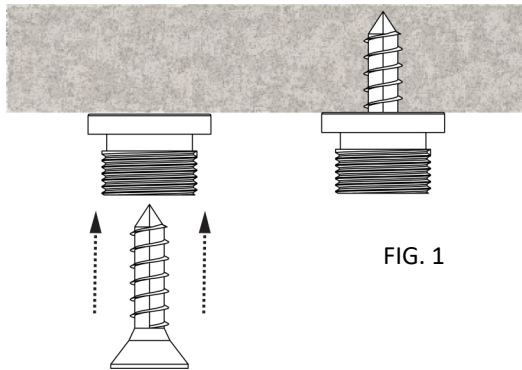

FIG. 1
- Attach the ceiling screw base (Fig. 1) to the mounting surface with the appropriate screw type. Ensure it is secure.